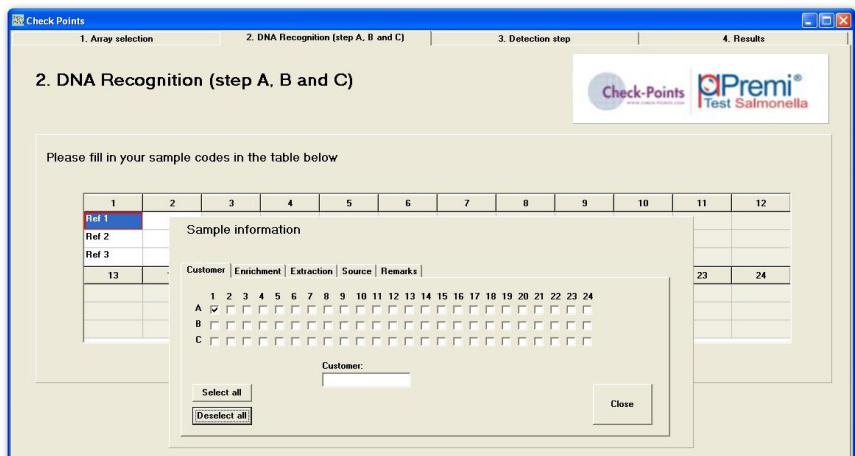

Figure 5: Pop-up for additional sample details.
- Additional remarks may be added per sample (optional), when sample references have been filled out. Double click on one of the sample reference fields. A pop-up will appear (see fig 5) allowing remarks to be added to individual samples or to all samples, by checking the box(es) of the relevant sample(s). Relevant information of the samples must be added at this stage as the database cannot be edited once the results have been read.